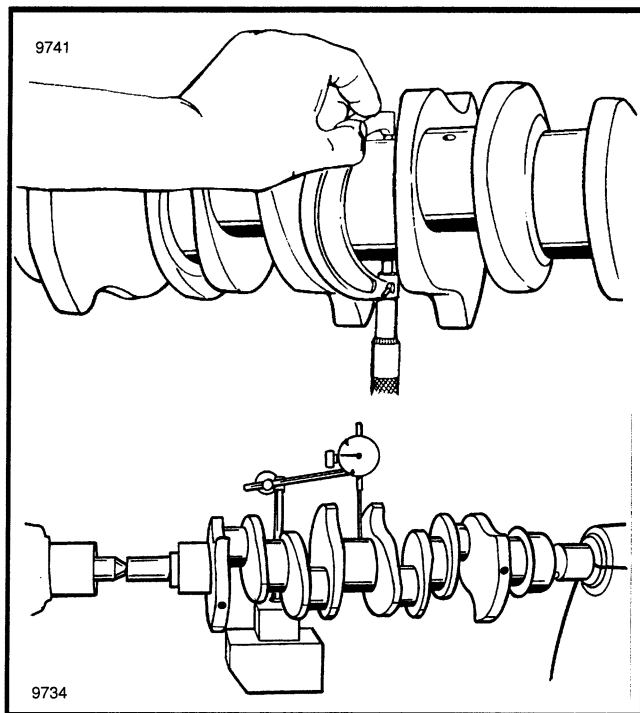

FIGURE 18. CRANKSHAFT INSPECTION
3. Inspect the crankshaft for wear and damage. See FIGURE 18. Use a micrometer to measure the journals for the bearings of the crankshaft. Do the measurement at different positions to see if the surface of the bearing is round. The correct sizes are given in the ENGINE SPECIFICATIONS.